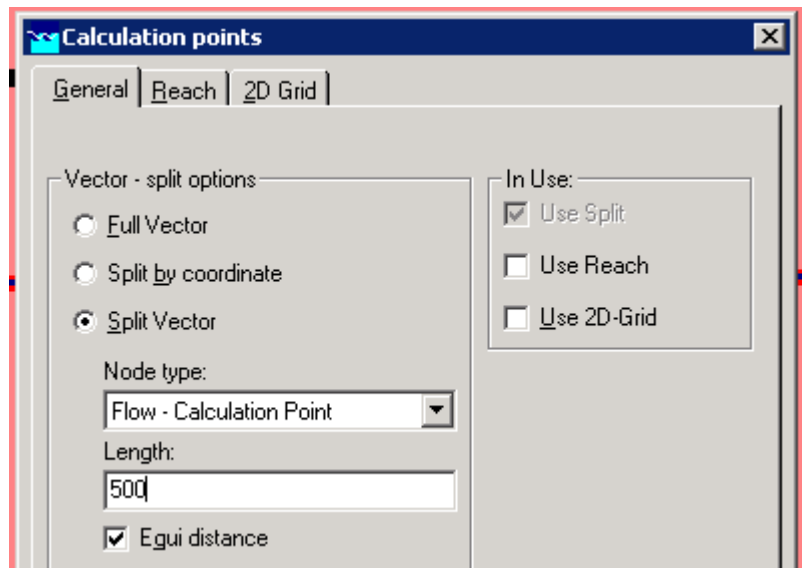

Figure 8
4. Select the *Edit Network* icon >> *Reach* >> *Calculation grid reach* to set the longitudinal discretization of the model (Figure 8).